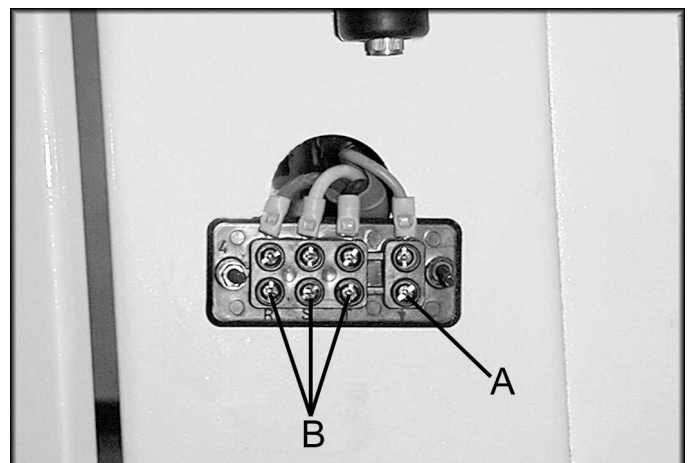

FIGURE 1
2. Remove the wiring cover and attach the ground wire (A), Figure 1.
3. For 3 Phase: Connect the three power leads (B) to the wiring board.